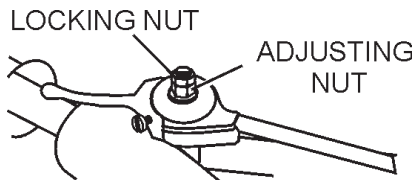

Figure 9. Throttle Adjust
6. Adjust cable tension loosening the lock nut on the throttle cable receiver (Figure 9), loosening or tightening the adjuster nut below it, then retightening the lock nut.